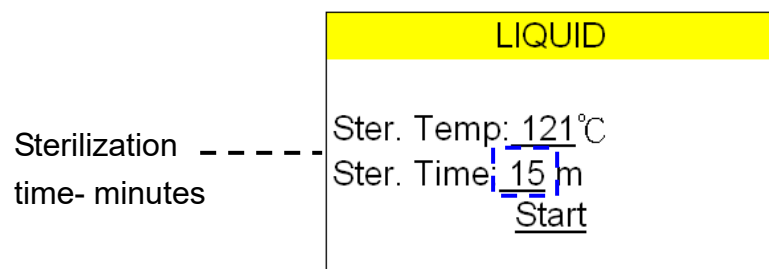

Figure 58
- Press  button to store sterilization time parameter as shown in Figure 58.